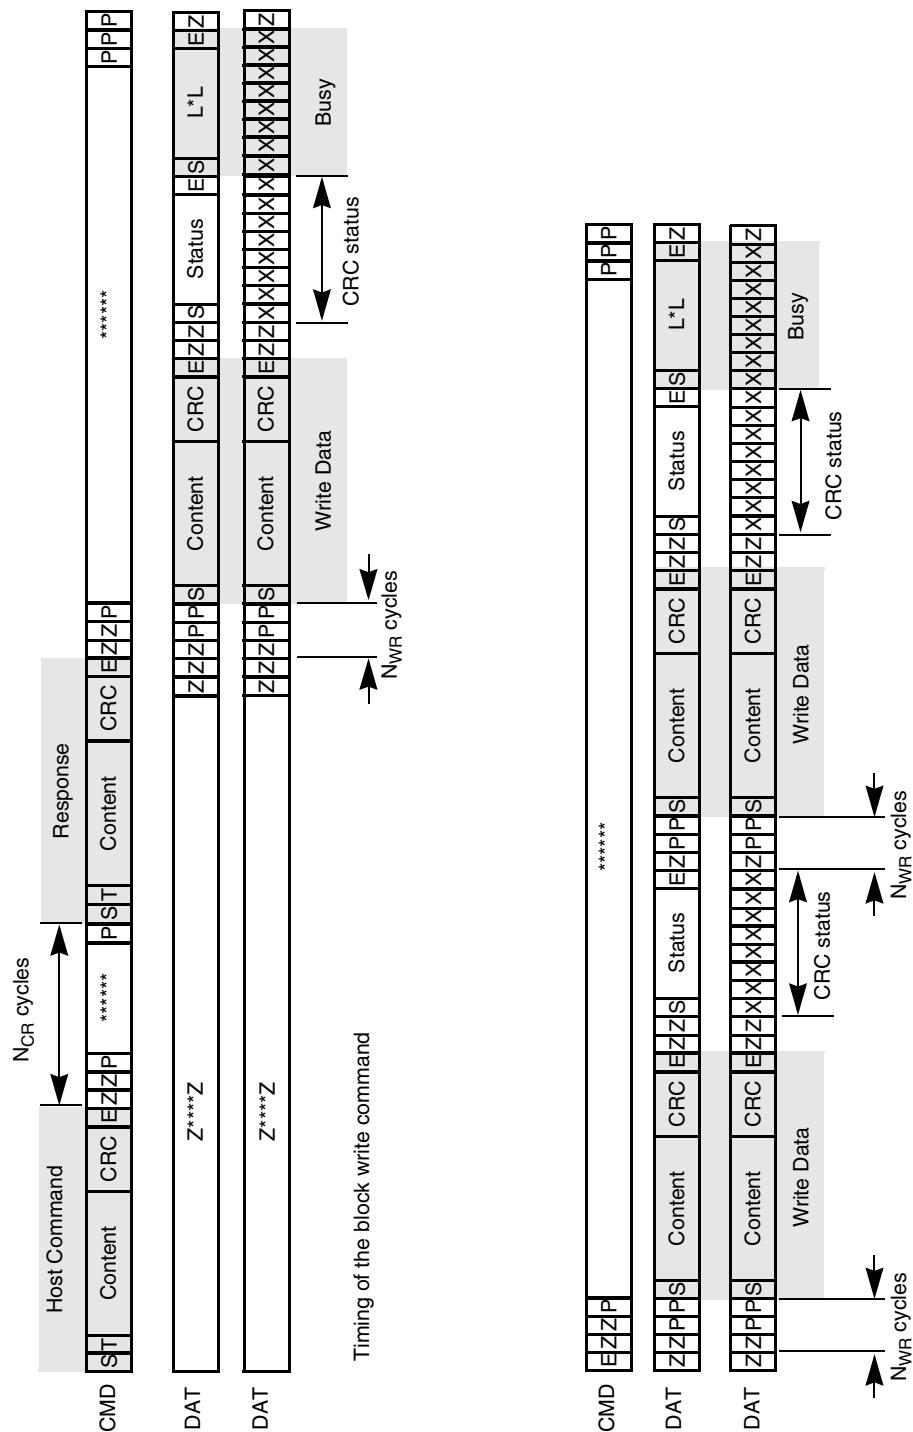

Figure 47. Timing Diagrams at Data Write
Figure 47 shows the basic write operation timing. As with the read operation, after the card response, the data transfer starts after N_{WR} cycles. The data is suffixed with CRC check bits to allow the card to check for transmission errors. The card sends back the CRC check result as a CC status token on the data line. If there was a transmission error, the card sends a negative CRC status (101); otherwise, a positive CRC status (010) is returned. The card expects a continuous flow of data blocks if it is configured to multiple block mode, with the flow terminated by a stop transmission command.